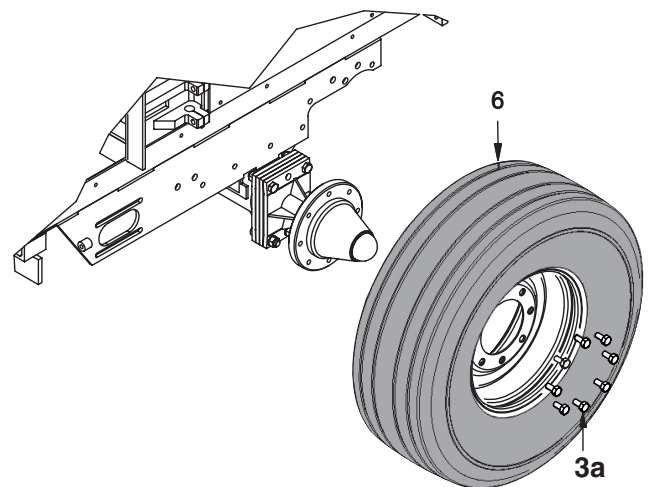

Figure 2-3-5 - Mounting Tire
C. Mount the tire with the valve stem pointing to the inside of the baler as shown in Figure 2-3-5. Torque all lug bolts as per torque chart on page 2-3-1.